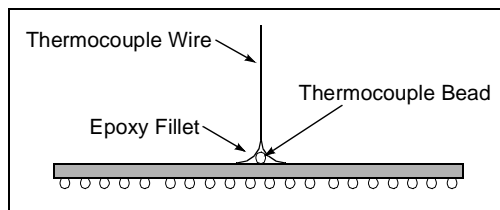
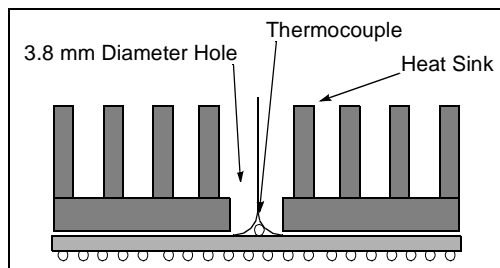

Figure 5. Thermocouple Attachment - No Heat Sink
Figure 6. Thermocouple Attachment - With Heat Sink
- Attach the thermocouple bead or junction to the package top surface at a location corresponding to the center of the die (Figure 5). The center of the die gives a more accurate measurement and less variation as the boundary condition changes.
- Attach the thermocouple bead or junction at a 90° angle by an adhesive bond (such as thermal epoxy or heat-tolerant tape) to the package top surface as shown in Figure 5. When a heat sink is attached, drill a hole through the heat sink to allow contact with the package above the center of the die. The hole diameter should be no larger than 3.8 mm as shown in Figure 6.